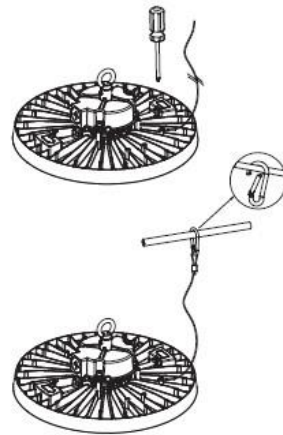

Figure 15
- Step 1. Attach the safety cable to the fixture with screws. (Figure 15)